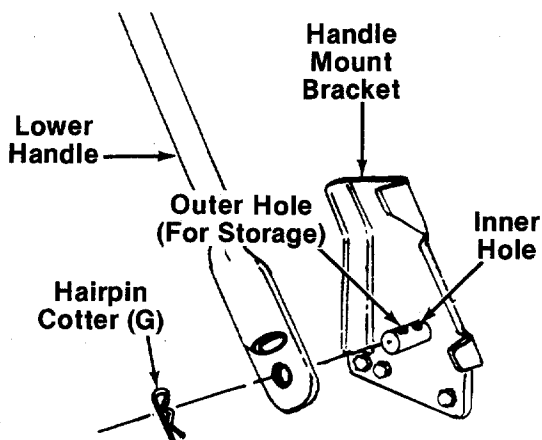

FIGURE 2.
- C (3) Hex Nuts 5/16-18 Thread
- D (2) Phillips Head Screws
- E (1) Plastic Cap
- F (2) Cable Ties
- G (2) Hairpin Cotters
- H (2) Front Hub Caps (Optional—Not Shown)
- I (1) Pin 4 1/4" Long
- J (1) Plastic Plug (Not Shown)
3. Place lower handle in position over weld pins in handle mount brackets on deck. Make certain the instruction label on the lower handle can be read from the operating position. Secure by placing two hairpin cotters (G) in inner hole on weld pins. See figure 2.